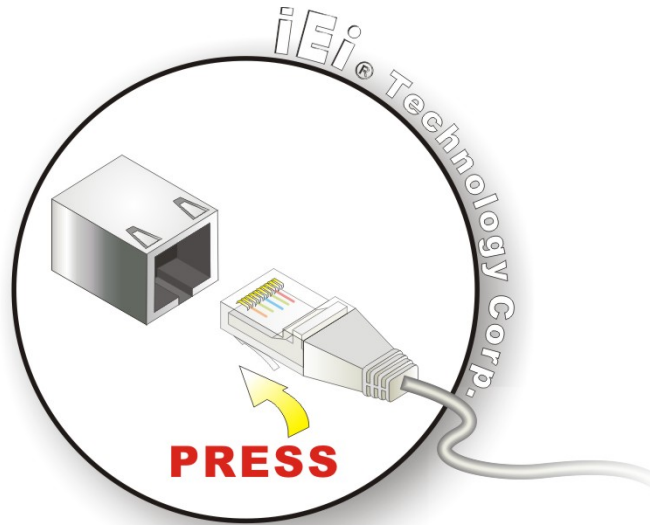

Figure 4-12: LAN Connection
Step 2: Align the connectors. Align the RJ-45 connector on the LAN cable with one of the RJ-45 connectors on the PCISA-PV-D4251/N4551/D5251. See **Figure 4-12**.